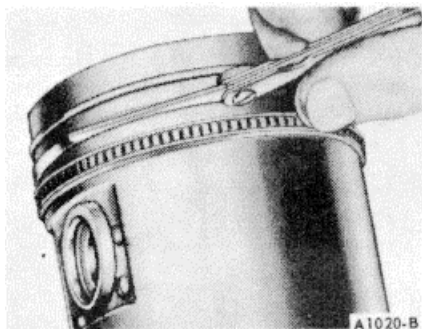

Fig. 29 Checking Piston Ring Side Clearance
6. Check the ring side clearance of the compression rings with a feeler gauge inserted between the ring and its lower land (Figure 29). The gauge should slide freely around the entire ring circumference without binding. Any wear that occurs will form a step at the inner portion of the lower land. **If the lower lands have high steps, the piston should be replaced.**